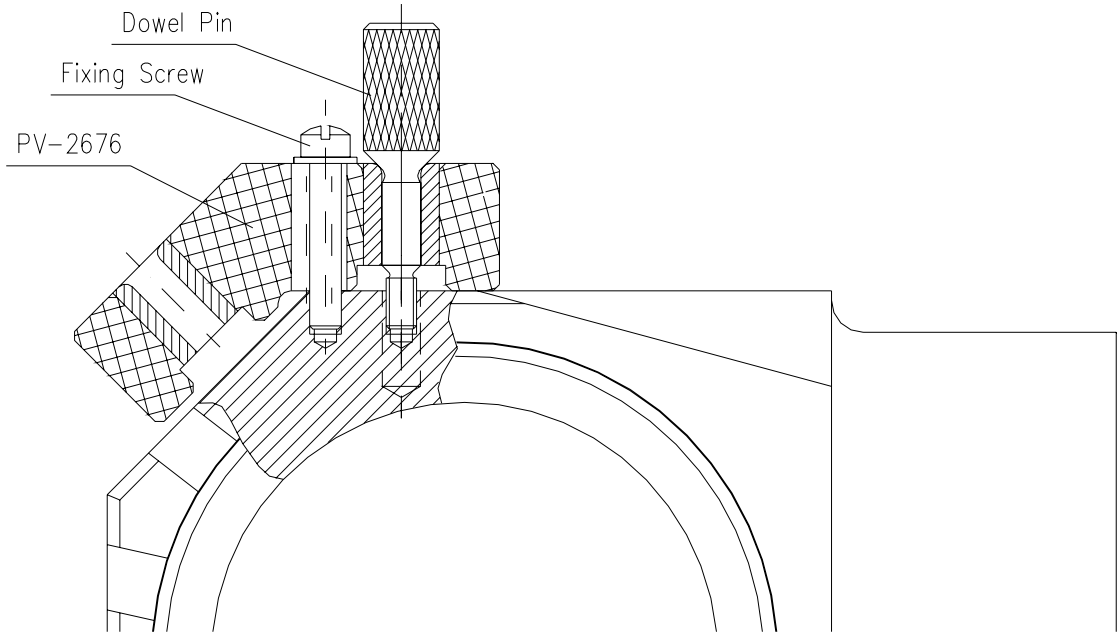

Fig.2
1. Fix the device PV-2676 with the Dowel Pin on the present rear- and with the Fixing Screw on the forward guide rod fixing hole (UNF No. 10-24) (Fig. 2).